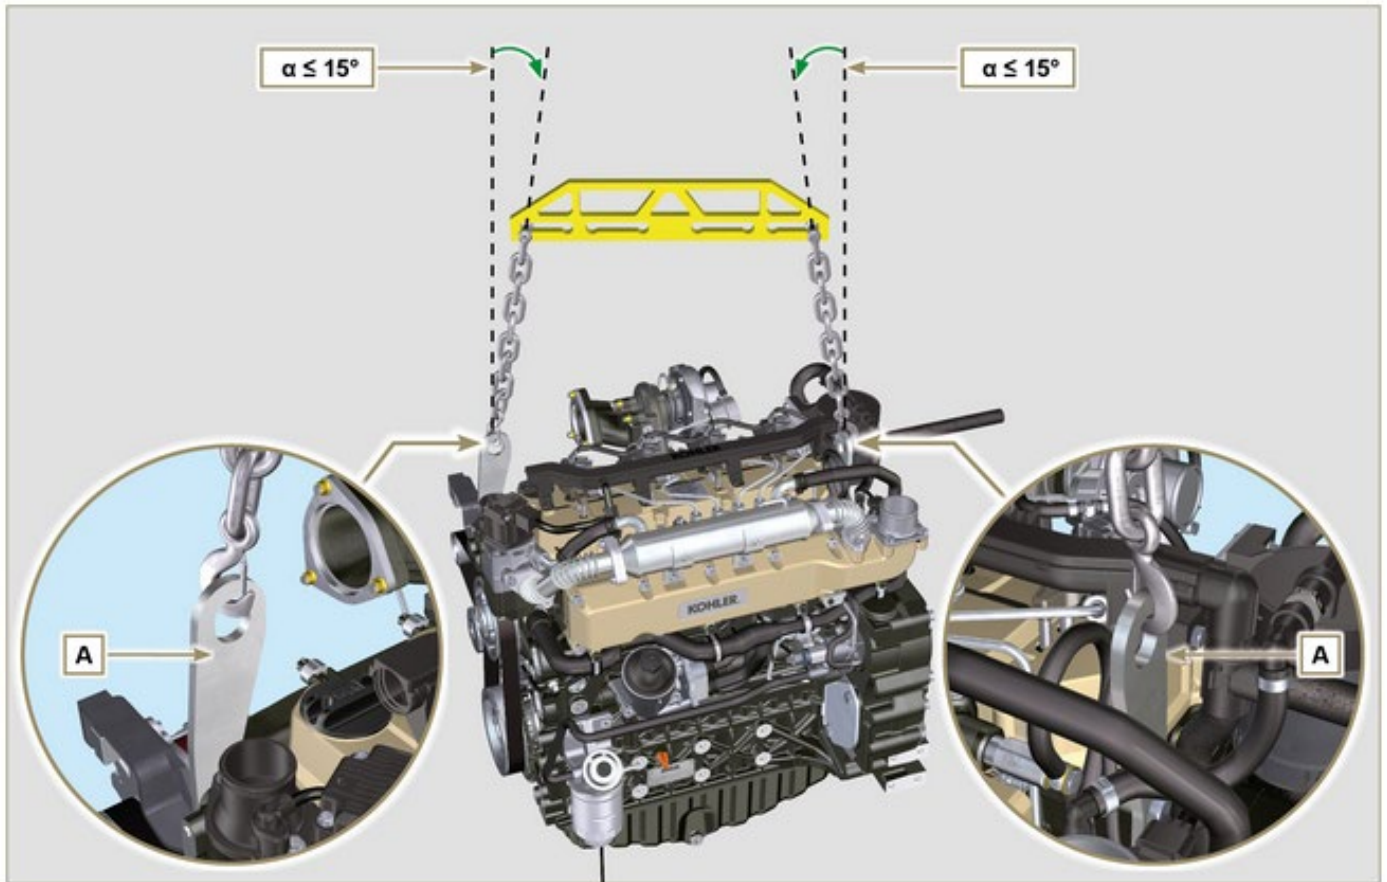

Fig 3.1
- Only use the eyebolts **A** installed by **KOHLER** to move the engine (**Fig. 3.1**) .